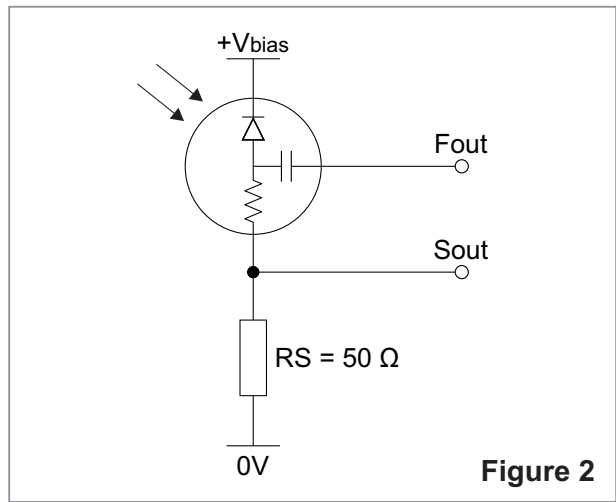

Figure 2
2) There is no need to use a preamplifier. Signal can be monitored directly from the anode of the MacroPixel connected to the ground through a 50 Ohms resistor (Figure 2). At +30 V bias a typical pulse corresponding to 3000 keV deposited energy is about 200mV in amplitude and 20 μ s long for SC-14x25c-SiPM-T.